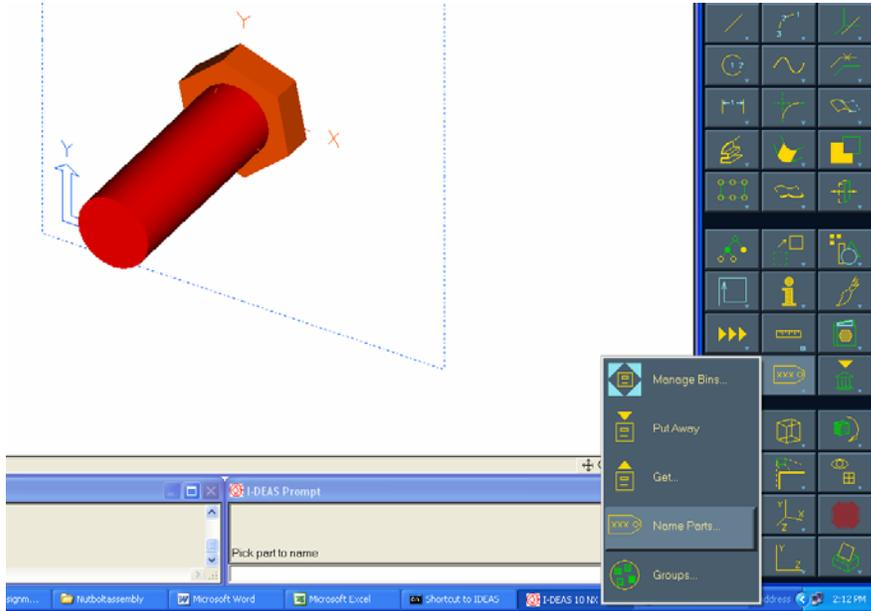

Figure 4
4. Sketch a circle and extrude to make a bolt and name it as *boltbody* as shown in figure 4. (don't worry about bolt head being there)